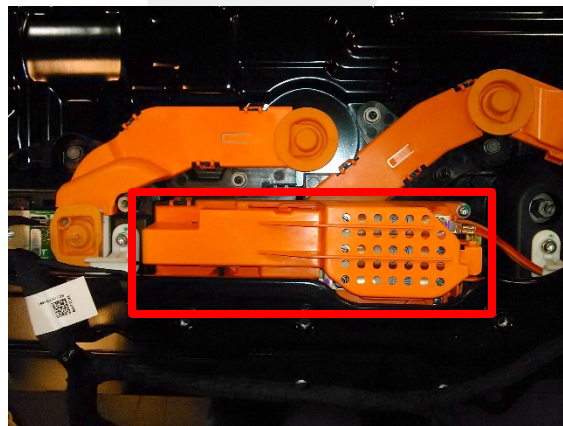

Figure 7
12. Release the clips that attach the fuse access insulator to the penthouse, and then remove the insulator from the penthouse (Figure 7).
16. Install the fuse access insulator, and then fasten the clips that attach the insulator to the penthouse (Figure 7).